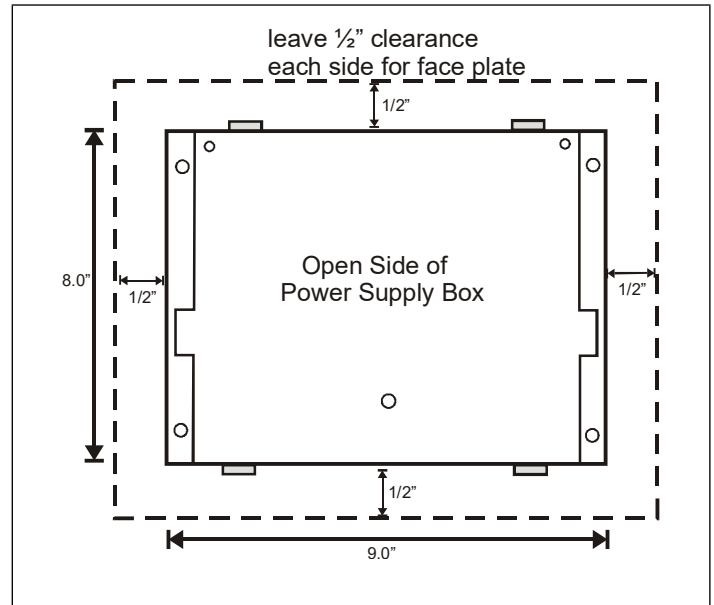

Figure 6 - Leave 1/2" For Face Plate Mounting
- Cut a rectangular hole into the mounting surface 8.0" high by 9.0" wide, by at least 3.875" deep (20.32 cm high by 22.86 cm wide by at least 9.84 cm deep). When cutting the mounting hole, allow at least 1/2" (1.27 cm) clearance around the hole for face plate mounting (**Figure 6**).